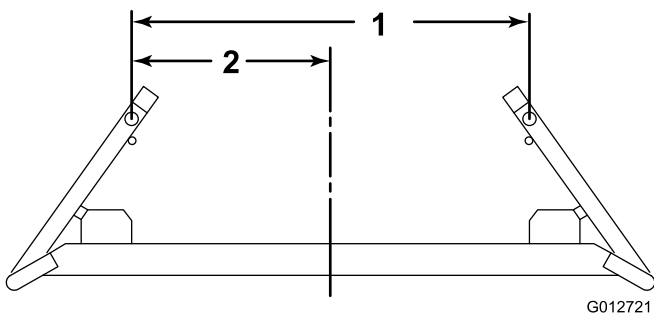

Figure 7
- If the Transport Frame is to be used on a public road, the overall width of the frame and the mowers may not exceed 8 feet. The clevis on the end of the hydraulic cylinders and the arm stops may be adjusted to attain the desired width shown in Figure 7.